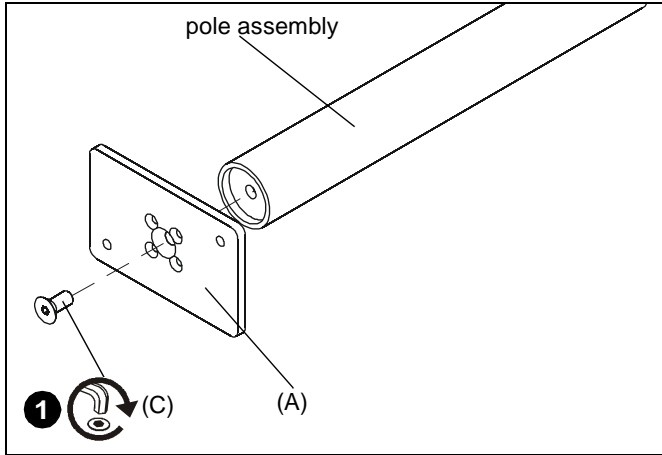

Figure 1
1. Secure pole adapter (A) to pole assembly using 3/8-16 x 1" flathead cap screw (C) and 7/32" hex key (E). (See Figure 1)